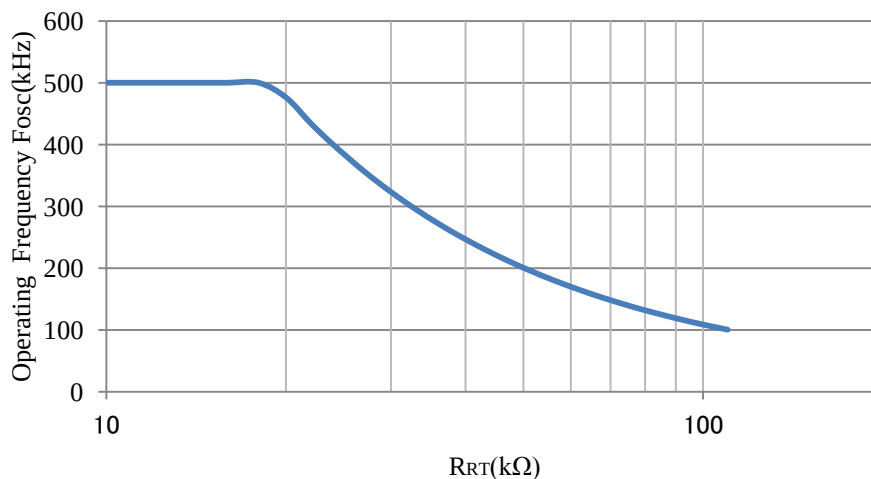

fig.6 R_{RT} vs. F_{osc}
The operating frequency of the LC5710S is adjustable with the value of “setup resistor R_{RT} ” that is connected between RT terminal (2 pin) and GND terminal (3 pin). This frequency F_{osc} can be calculated with an equation (1). The relations of the frequency to the resistance value of R_{RT} are shown in the fig. 6.